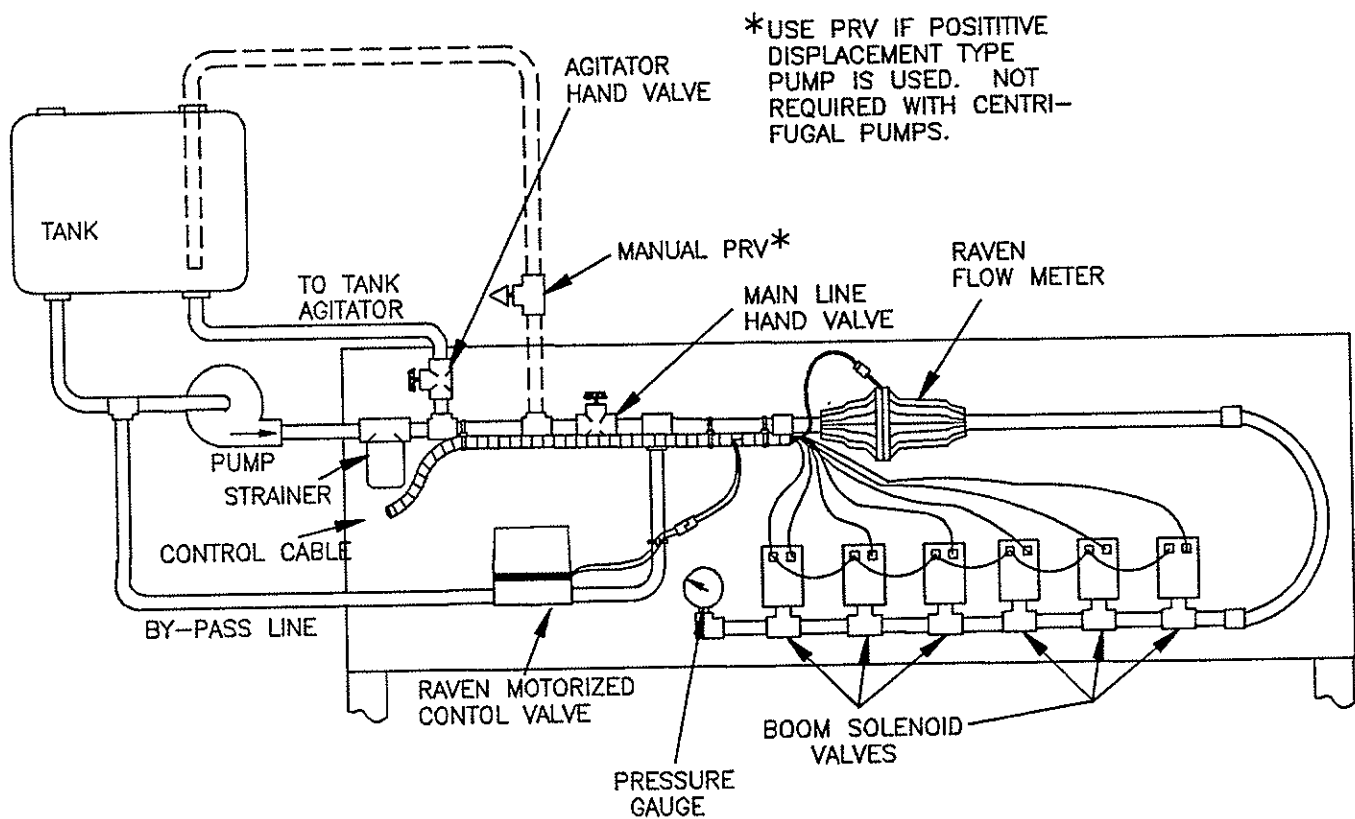

FIGURE 4
- 1) Mount Flow Meter in the area of the boom on/off valves per FIGURE 4. All flow through Flow Meter must go to booms only, i.e., no return line to tank or pump after Flow Meter.
- 2) Mount Flow Meter horizontal to the ground. Use the bracket to secure the Flow Meter (See FIGURE 4).
- 3) For best results, allow a minimum of 7 1/2 inches (20 cm) of straight hose on inlet of RFM of Flow Meter. Bend radius of hose on outlet of Flow Meter should be gradual, as shown in Figure 4.
1) Mount the motorized Control Valve in the by-pass line with motor in the upright position. (See Figure 4).